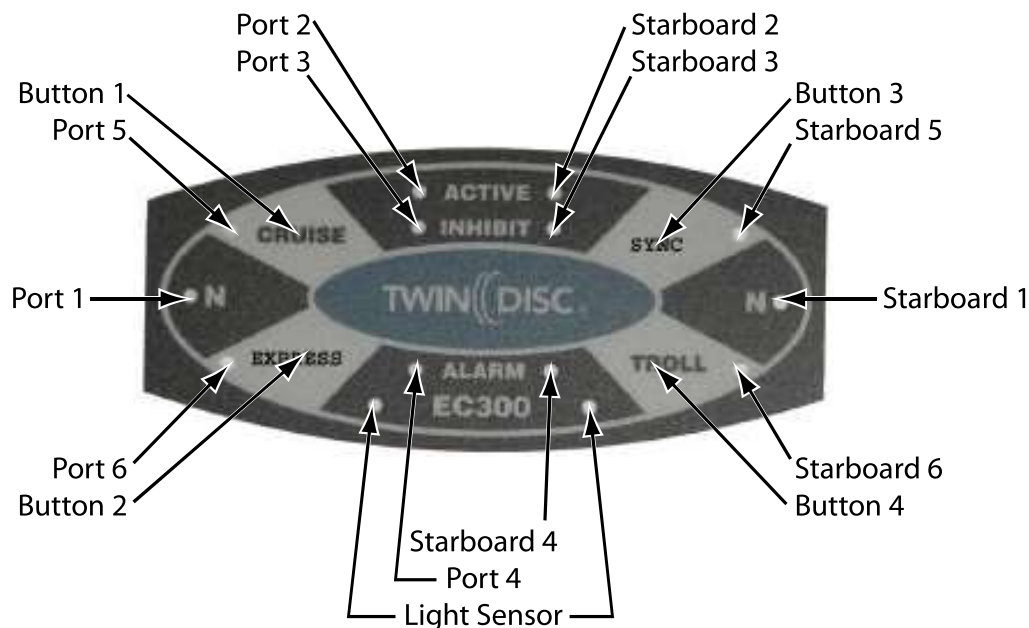

Figure 6. Digital Control Head LED and Switch Identification
2. Simultaneously press buttons 3 and 4 as shown in Figure 6.